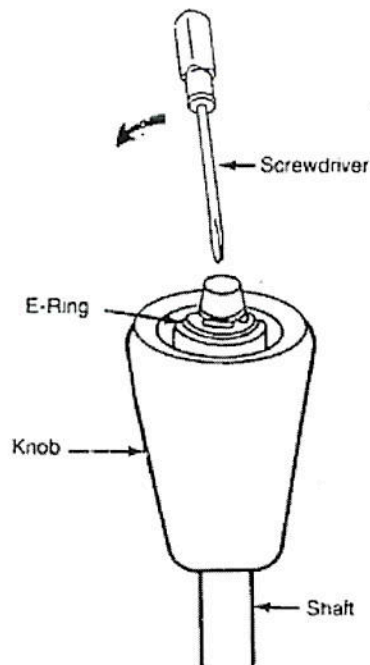

Figure 2
2. Pry out E-Ring from shaft using screwdriver blade and discard. Figure 2.